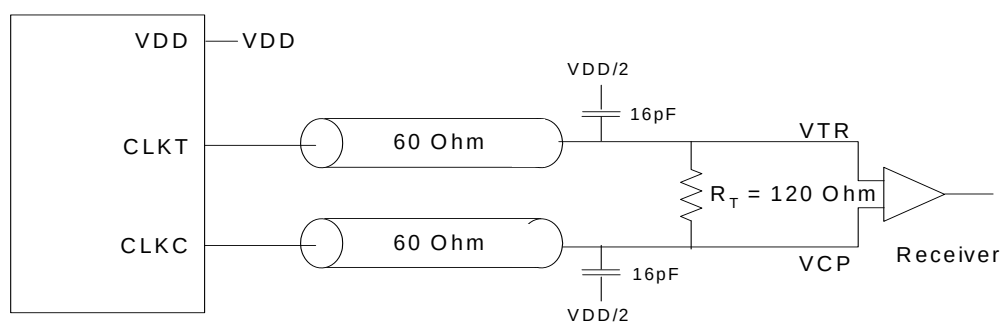

Figure 6. Differential Signal Using Direct Termination Resistor
- For load conditions see Figure 6.
- The value of  $V_{OC}$  is expected to be  $|V_{TR} + V_{CP}|/2$ . In case of each clock directly terminated by a  $120\Omega$  resistor. See Figure 6.
- All outputs switching loaded with  $16\text{ pF}$  in  $60\Omega$  environment. See Figure 6.
- All differential input and output terminals are terminated with  $120\Omega/16\text{ pF}$  as shown in Figure 6.